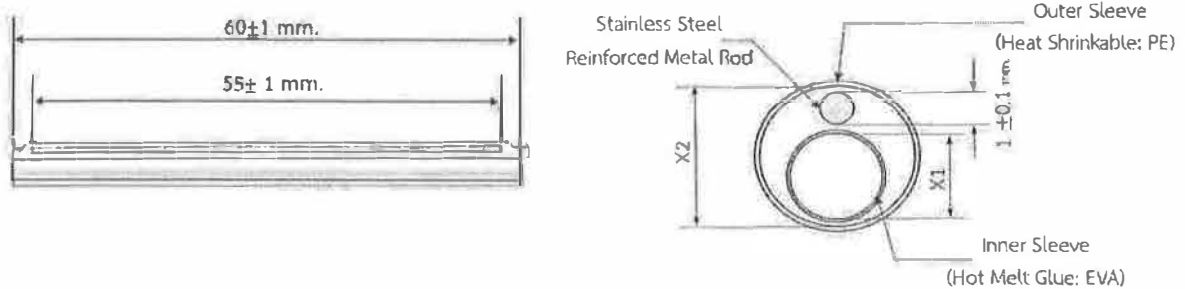

Figure 4 Reinforce metal heat-shrinkable splice protector
- 3.6.4. The dimensions of reinforcing metal heat-shrinkable splice protector shall be as the Figure 4 and Table 2.